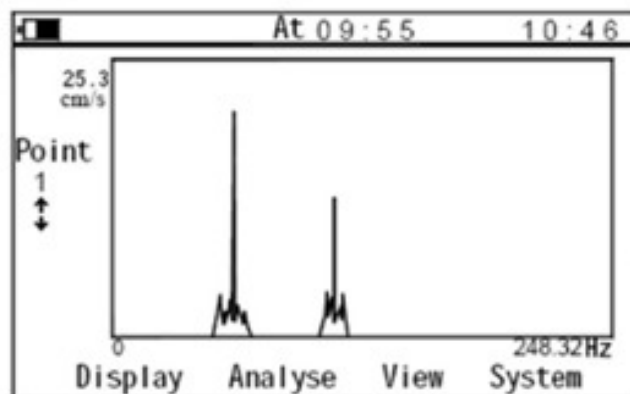
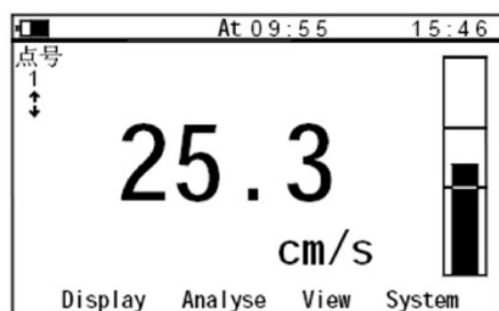
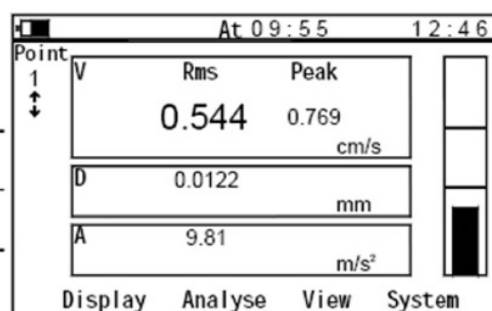

Figure 5-2
Figure 5-8 Velocity-common
Figure 5-9 Velocity- special
When diagnosing the fault, users could use this function. Spectrum chart maybe display like this. (See Figure 5-2)
- Limit: When the limit is set, the meter could display status bar to inspect the status of the running equipment easily. As soon as the tested value is beyond the limit, the meter request to enter into diagnosis (see Figure 5-2).
There are three display modes: Common mode (Table 5-1, Figure 5-8), Special mode (Table 5-2, Figure 5-9) and Spectrum mode (Figure 5-2).